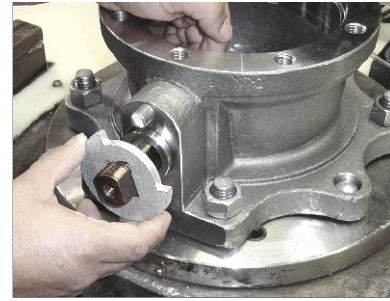

Figure 13 - Installing Stop Plate
3.2.8 Install the stop plate as shown in Figure 13 so that the valve will be closed in the full-clockwise position (unless specific applications require full CCW position).